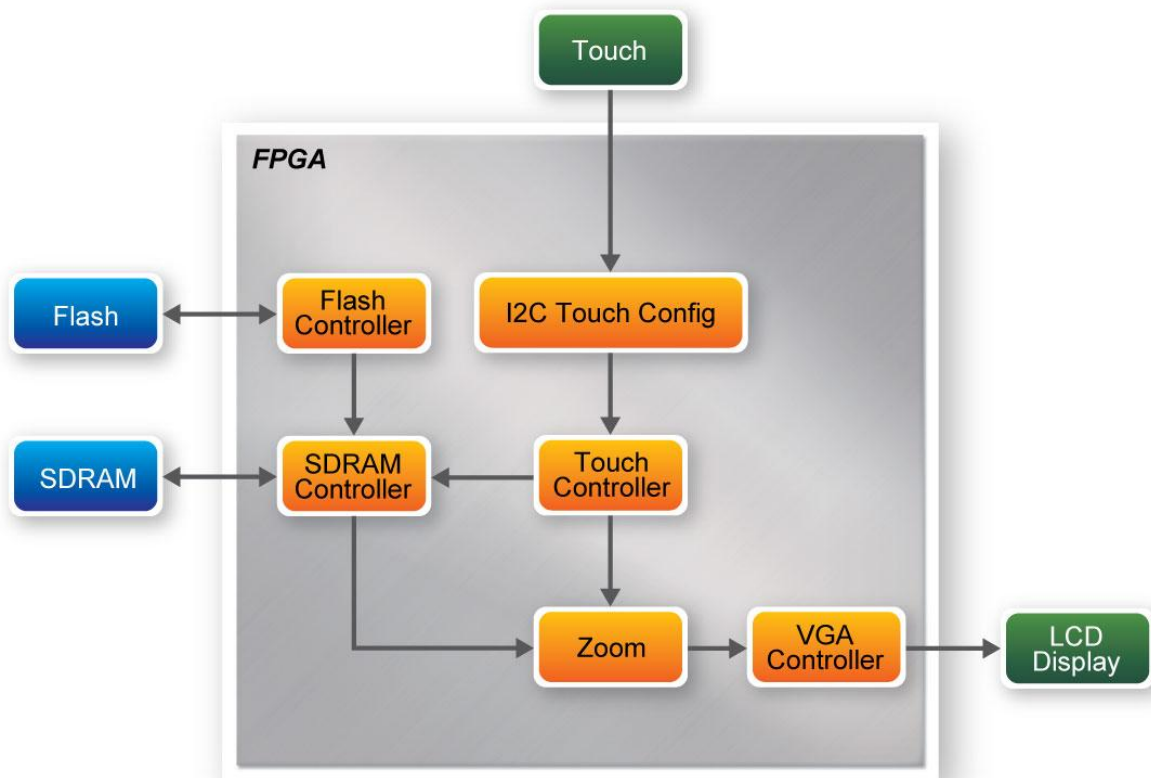

Figure 4-3 The Block Diagram of the ePhoto Demonstration
**Figure 4-3** shows the block diagram of the ePhoto demonstration. When the demonstration starts up, the system will control the *Flash Controller* to read the RGB data of three photos stored in the FLASH, and write the data into SDRAM by using the writing port of the *SDRAM*. The *SDRAM Controller* provides two reading ports and two writing ports. In this demonstration, only one reading port and one write porting are used. To display the selected photo on the 800x480 LCD, the *VGA Controller* will retrieve the photo data via reading the port of the *SDRAM*, and drive the LCD display with the retrieved photo data. The *VGA Controller* retrieves the photo data at a rate of 60 photos per second. *Zoom* handles the photo zooming process. The displayed photo is zoomed before being sent to the LCD display.